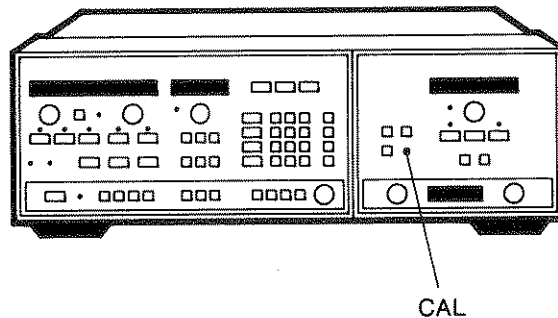

Figure 2-2. HP 83590 Series RF plug-in CAL Adjustment Location
Turn the CAL (Calibration adjustment) shown in Figure 2-2 until the power output display of the HP 8349B reads 3.0 dBm.
4. Turn the CAL (Calibration adjustment) shown in Figure 2-2 until the power output display of the HP 8349B reads 3.0 dBm.